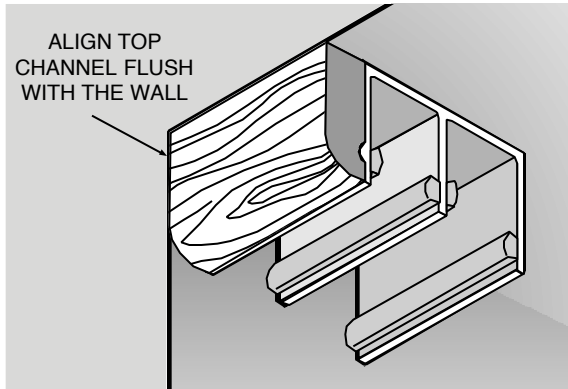

Figure 1
- C. When cut to proper length, install Top Channel (#2) up to the top front of closet opening making sure that the front of the Oak/Maple Fascia on the Top Channel (#2) is flush with outside walls (See Figure 1). Hold up the Top Channel (#2) in the desired position and with your Pencil, mark where the pre-drilled holes are in the Top Channel (#2).